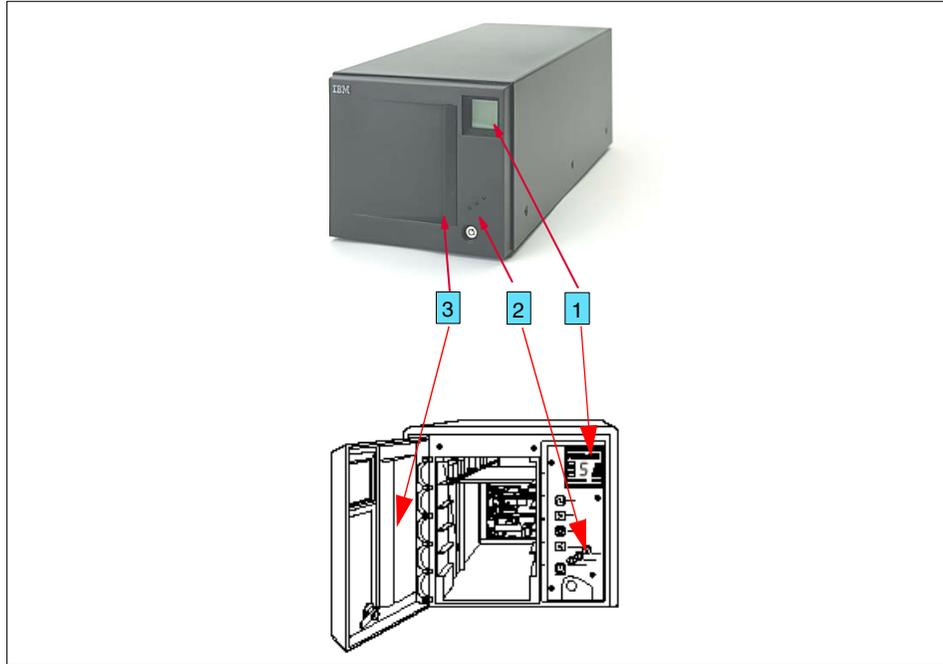

Figure 5-3 IBM 3581 front view
- ▶ Unless you choose another operation, the IBM 3581 times out 30 seconds after each operation and LdR REAdY appears in the message display (label 1 in Figure 5-3 on page 106).
The IBM TotalStorage Ultrium Tape Autoloader 3581 features three status lights on the operator panel (label 2 in Figure 5-3 on page 106):
The LCD message display (label 1 in Figure 5-3) provides information about the status of the IBM TotalStorage Ultrium Tape Autoloader 3581 and any error conditions. When in an idle (non-operating) state, the autoloader message panel displays LdR REAdY. In addition, the following characters (shown in Figure 5-4 on page 107) may appear on the left side of the display:
The IBM 3581 internal tape drive determines when the head needs to be cleaned and alerts you by displaying CT on the message display (label 1 in Figure 5-3 on page 106). This is the *only* occasion when a cleaning cartridge should be used. The IBM 3581 supports three methods of cleaning the drive: